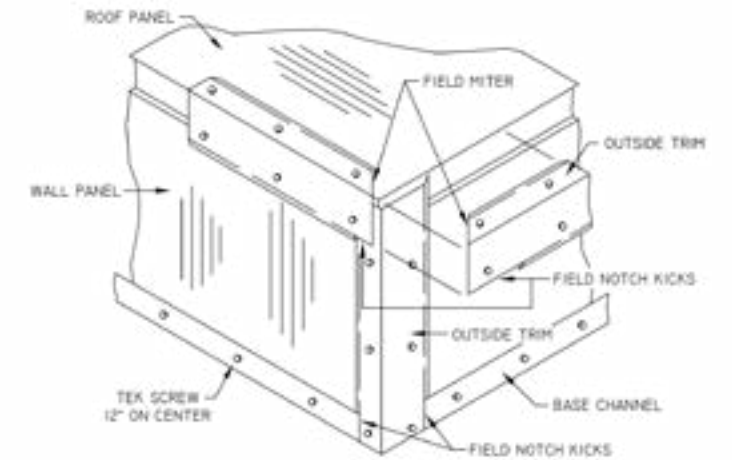

FIGURE 9
- 3) Apply butyl sealant to both legs of outside trim and install vertical outside trim where pre-formed corner panels are not used. Attach the trim such that it runs from the top of the roof panels to the curb, overlapping the base channel. Field notch kicks at trim overlapping the base channel. (FIGURE 9)
- 4) Apply butyl sealant to both legs of horizontal outside trim and fasten it to the roof and wall panels providing a tight seal. Trim is to be secured to panels with self-drilling TEK® screws, through each panel joint, internal stiffener and at 12" on center. The field notch kicks at the trim overlap. Miter as required. (FIGURE 9)